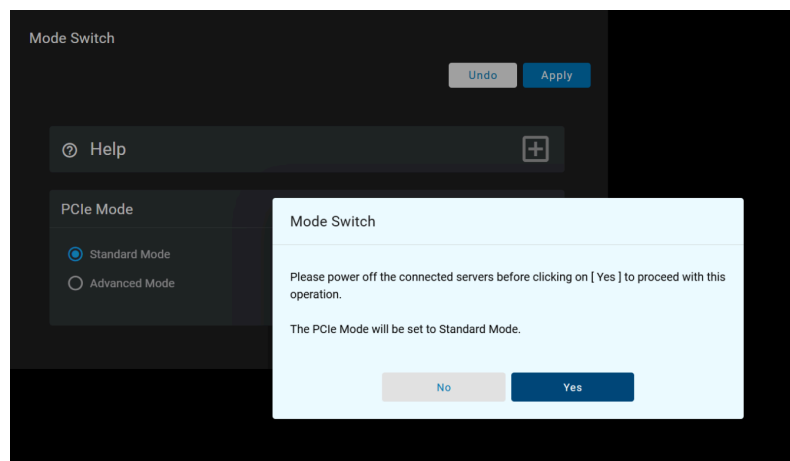

Figure 95. Confirmation Dialog
- A confirmation dialog will appear, as shown in Figure 95.